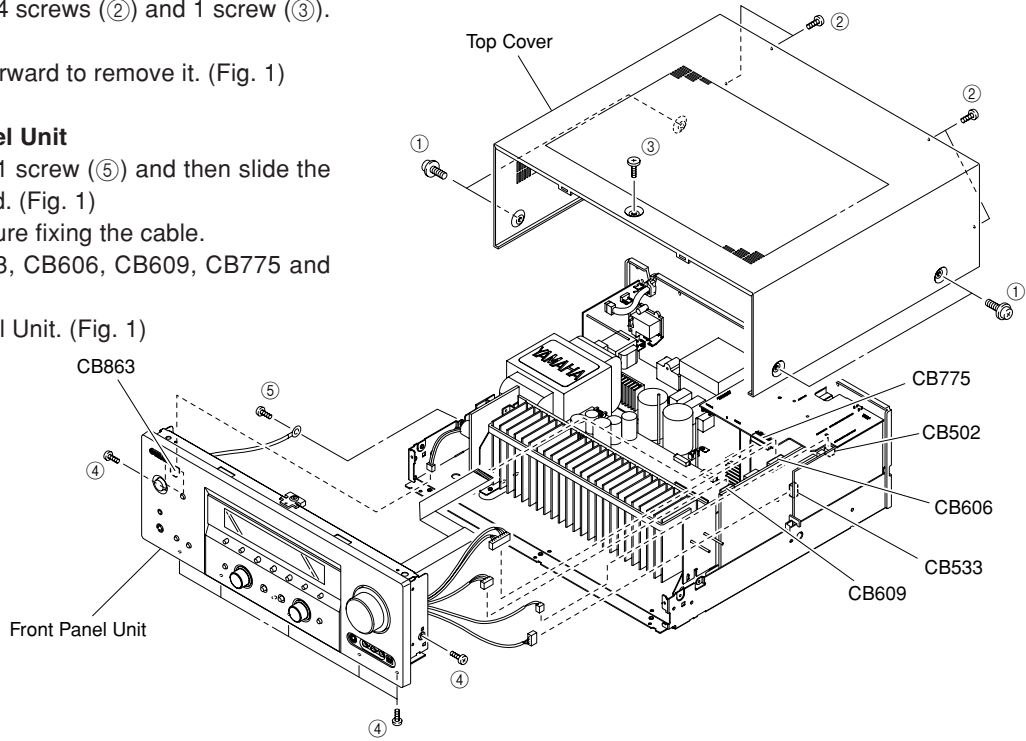

Fig. 1
- a. Remove 4 screws (1), 4 screws (2) and 1 screw (3). (Fig. 1)
- b. Slide the Top Cover rearward to remove it. (Fig. 1)
- a. Remove 7 screws (4), 1 screw (5) and then slide the Front Panel Unit forward. (Fig. 1)
- c. Remove CB502, CB533, CB606, CB609, CB775 and CB863. (Fig. 1)
- d. Remove the Front Panel Unit. (Fig. 1)
4. Operation check of MAIN (2) P.C.B.
- Remove the Top Cover. (Fig. 1)